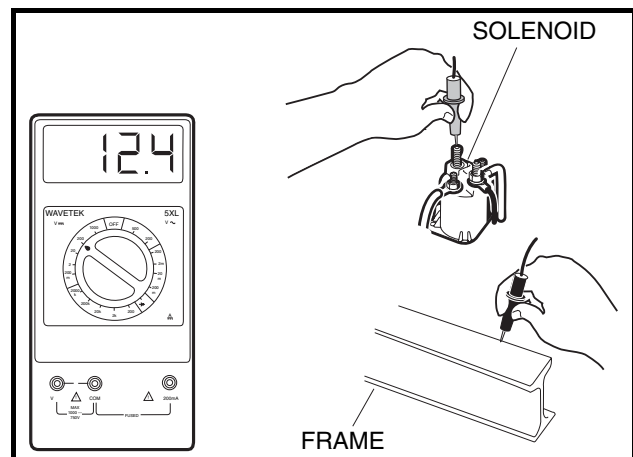

Figure 11-17 Solenoid Ground Test
8. With the Forward/Reverse handle still in NEUTRAL and the neutral lockout cam in the MAINTENANCE position, set the multimeter to 20 volts DC and place the red (+) probe on the large post that does not have wires connected to it. Place the black (–) probe on the vehicle frame. Turn key switch to the ON position, press accelerator pedal, and listen for solenoid click. The meter should read full battery voltage. If the reading is incorrect, replace the solenoid (**Figure 11-17, Page 11-19**).